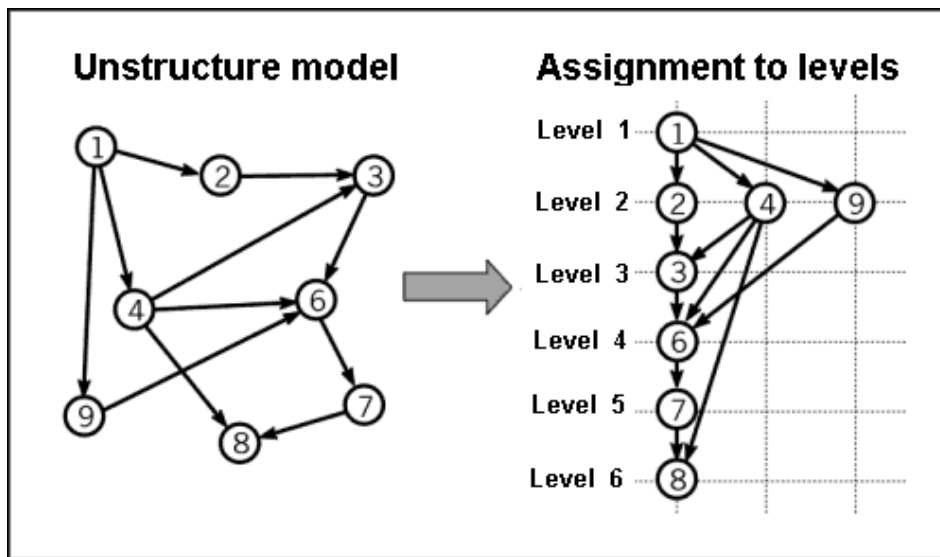

Figure 130: Schematic representation of the automatic arrangement
**Hint:** The start of the arrangement function causes a topological arrangement of the whole graph. This is necessary to assign each object of the model to hierarchically structured layers and to link them with relations. The relative position of the objects within the layers is chosen randomly (see fig. 130).